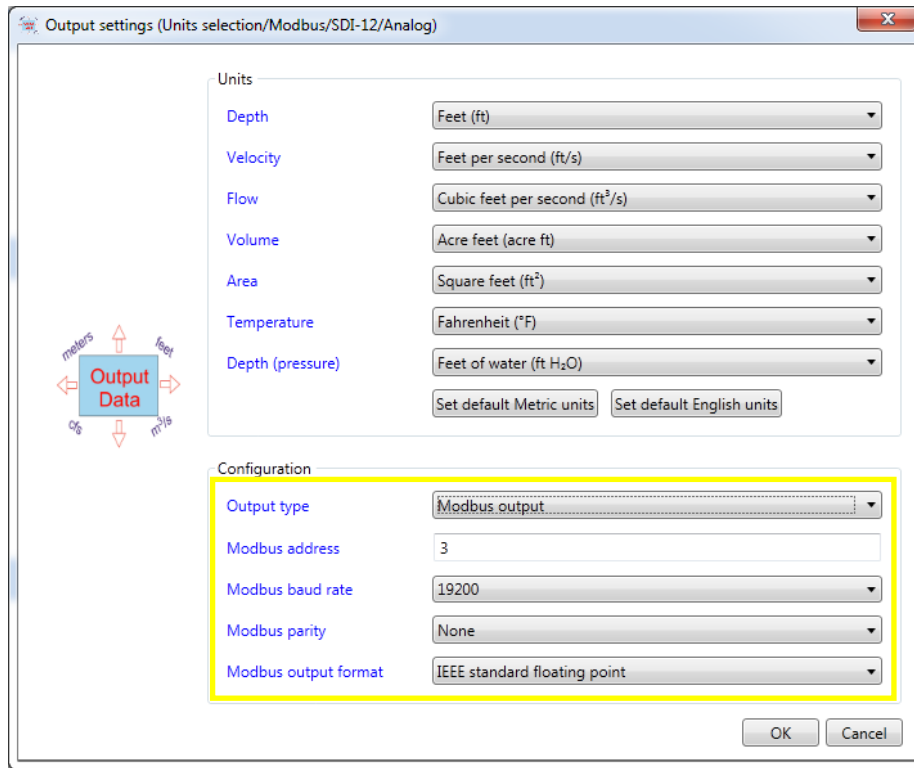

Figure 82. Modbus configuration using the SL software
- Figure 82 presents an example Modbus configuration.